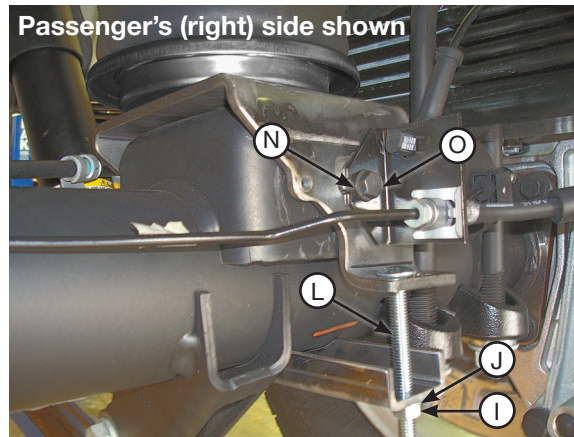

fig. 17
1. Position the lower bracket to best align the air spring. Insert two 3/8"-16 x 3 1/2" carriage bolts (L) through the lower bracket mounting legs (Fig. 17).
2. Insert the lower clamp bar (M) over the two carriage bolts previously installed and cap with two 3/8" nylon lock nuts (I) and flat washers (J). Torque evenly to 16 lb.-ft. (22Nm) (Fig. 17).
3. Attach the brake lines and emergency brake cable that were un-bolted from the rear of the axle in the "Getting Started" section by attaching them to the lower bracket with the new M8 hex cap screws (O) and flat washers (N) provided (Fig. 17). Tighten securely.